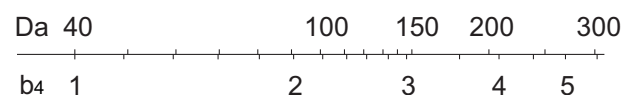

Fig.1 Dimension Factor
- C : Basic dynamic load rating (N)
- P : Equivalent radial load (N)
- b4 : Dimension factor (see Fig.1)